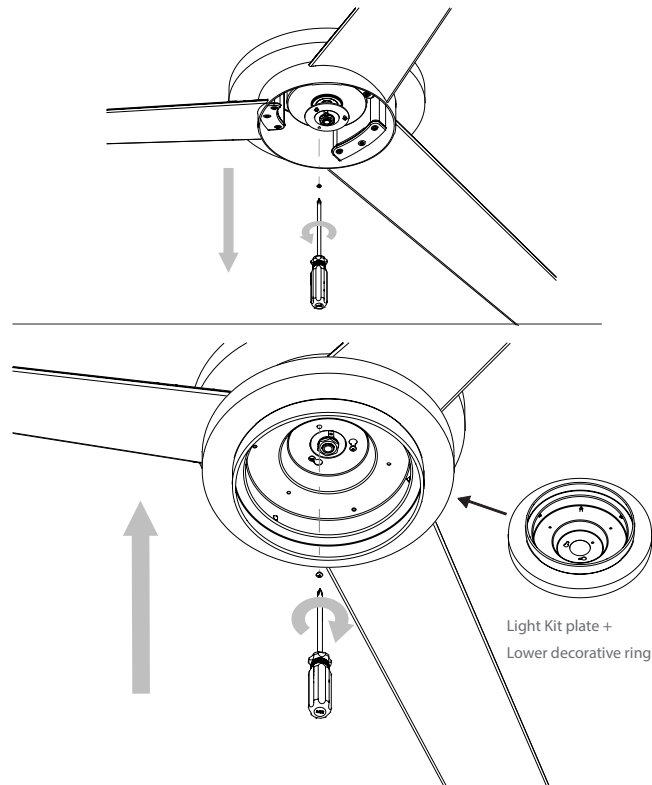

**FIG.14**
3. Slide the canopy up to mounting bracket and place the key hole on the canopy over the screw on the mounting bracket. Turn canopy until it locks in place at the narrow section of the key holes (**FIG.14**).